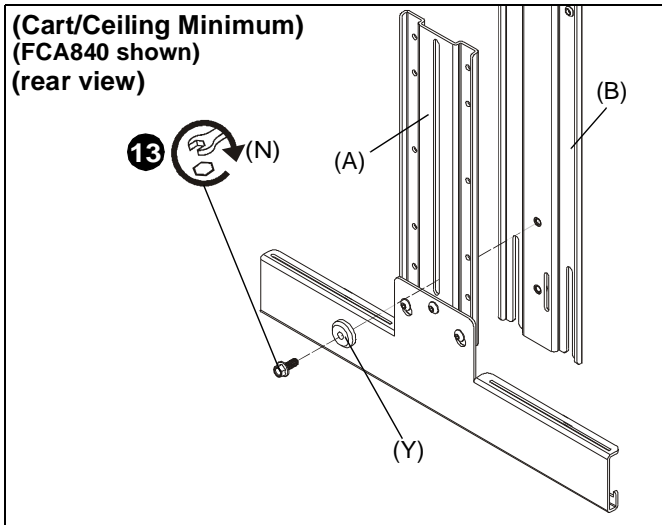

Figure 12
13. (For **minimum extension**) Use 1/4-20 x 5/8" hex head flange bolt (N) and center washer (Y) to secure upright bracket (A) to main bracket (B). (See Figure 12)